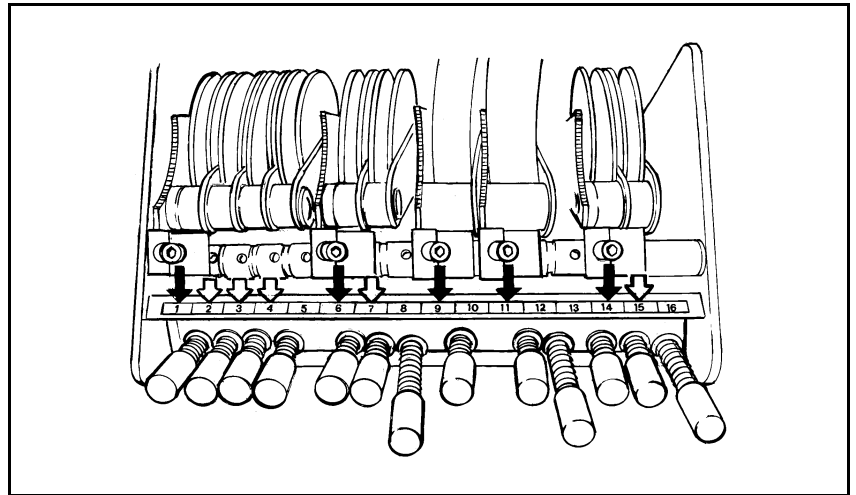

Figure 5-34. First feeder number at the screw.
3. Feeder numbers are read at the center of the upper screws, see the arrows in Figure 5-34. This applies also to the first feeder number of a multi-feeder mechanism.